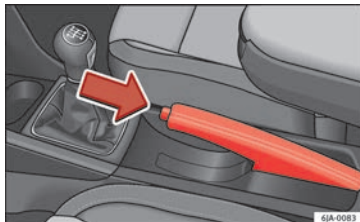

Fig. 90 Centre console: handbrake.
– Pull the handbrake lever up slightly and press the unlock button **at the same time** » Fig. 90.